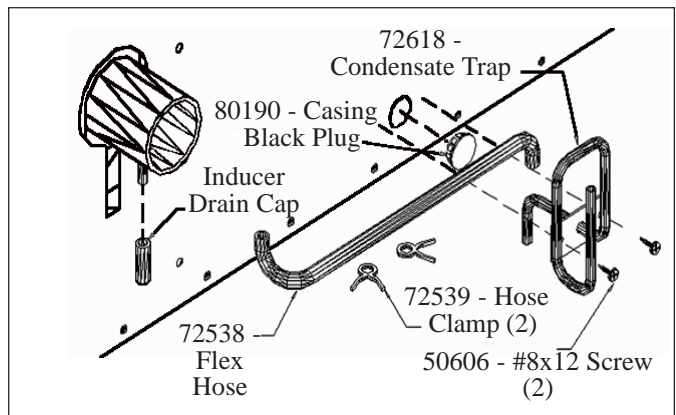

FIGURE 2
Step 8. Attach condensate trap to heater back so bottom of trap is inside the bottom of the condensate pan. Secure using the (2) #8 screws provided. Fill trap with water. See Figure 2.
Step 9. Remove and discard plastic cap from bottom of the draft inducer drain tube. See Figure 2.
Step 10. Connect the tubing to the draft inducer drain tube and the condensate trap. Secure both ends with two 3/8" hose clamps provided. See Figure 2.